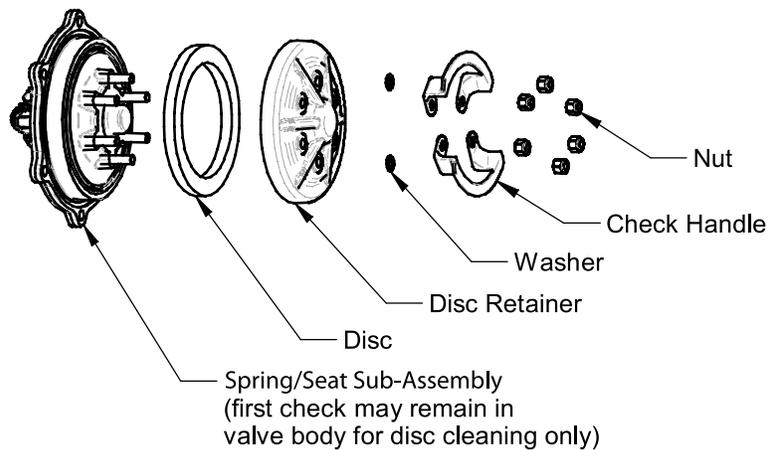

Figure 8
If only cleaning of the first check is necessary, simply remove the six (6) reusable locknuts for 8" valves / eight (8) nuts for 10" & 12" valves on the black plastic disc retainer (See Figure 8). Remove the check handles and washers and lift the disc retainer and disc out of the body. Rinse the disc with clean water or replace if necessary. The disc may be flipped over for a temporary repair, but should be replaced if damaged. Replace the disc, disc retainer, washer, handle, and nuts. **Do not over tighten locknuts.**